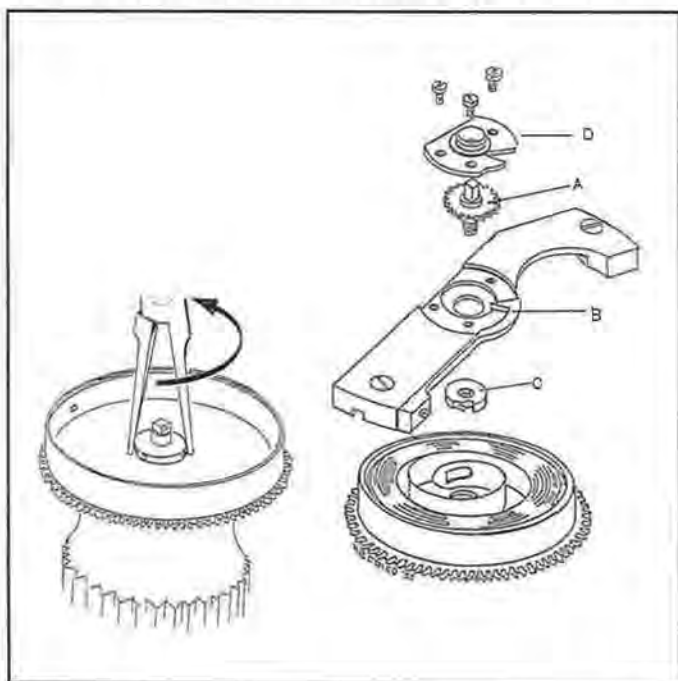

Figure 1.
The most frequently encountered type of hanging barrel is shown in Figure 1. To dismantle the barrel from its bridge, the ratchet cover (D) may be removed, giving a better access for a key or pinvise in grasping the square to let down the power in the mainspring. To separate the barrel from the bridge, the barrel cover is removed (should there be a stopworks system, remove this as explained in previous text).